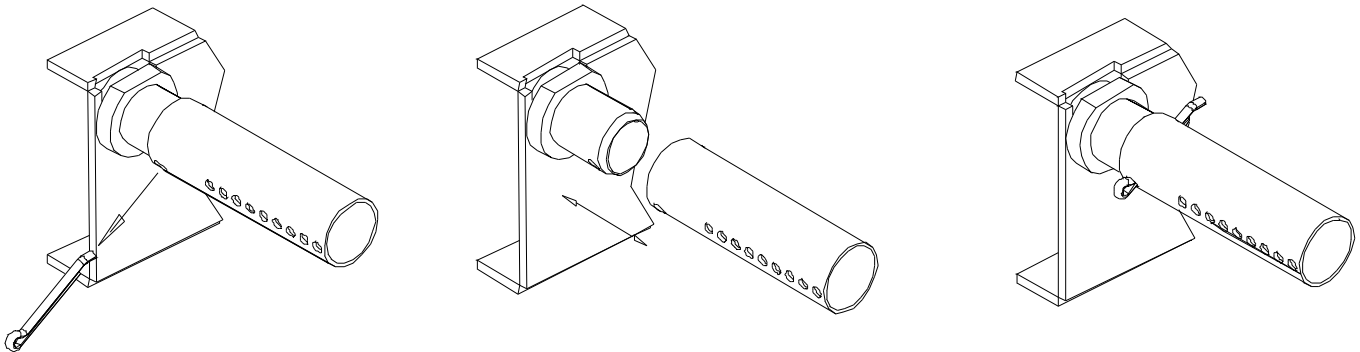

Figure 9 – Secondary Air Tube replacement
4.5 Secondary Air Tube Replacement (see Figure 9)